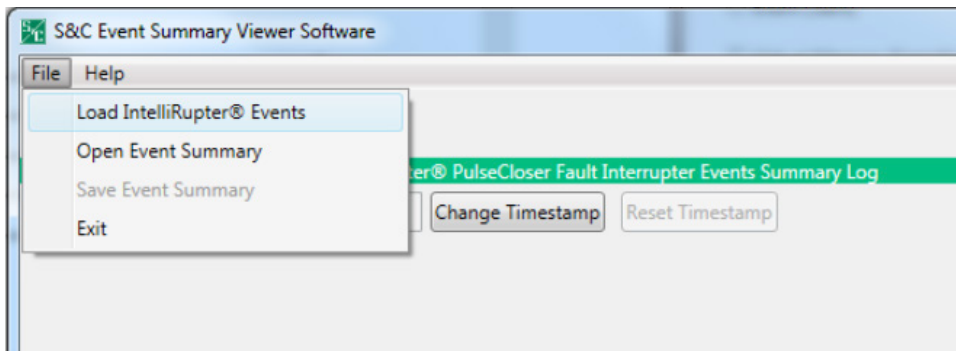

Figure 6. The File pull-down menu.
- STEP 2.** Once launched, click on the **File>Load IntelliRupter® Events** pull-down menu item or the corresponding left toolbar button to start the loading process. See Figure 6.